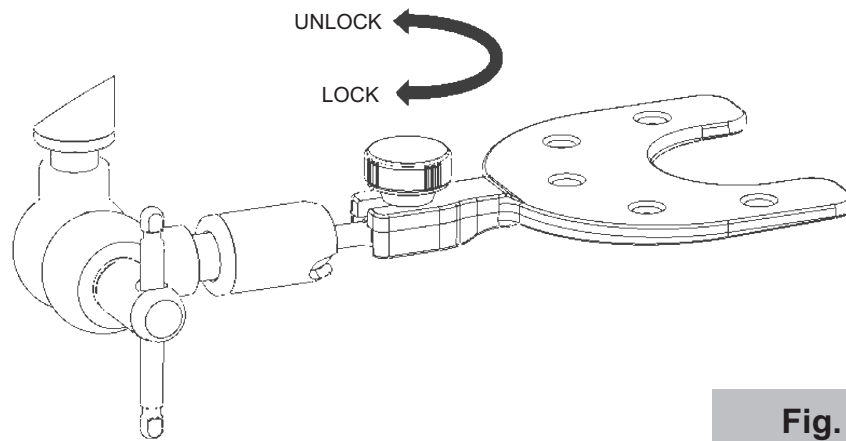

Fig. 05
4.5 Dentulous bitefork: Position the bitefork in the transfer set until the final course of the transfer set and use the knobs for fixing it (**Fig. 05**).